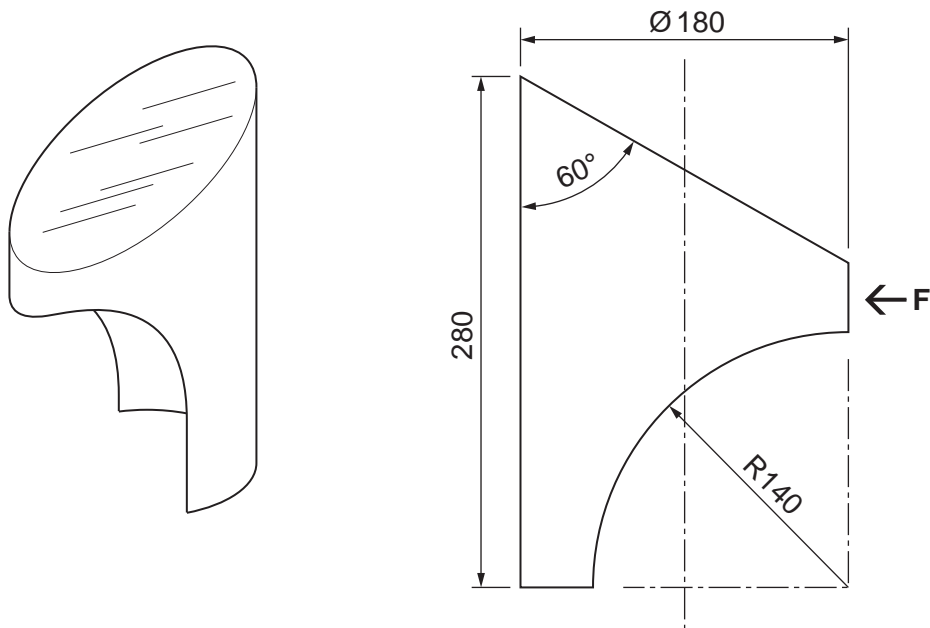

Fig. 4
- 7 Fig. 4 shows the side elevation of a card helmet to be used in a drama production.